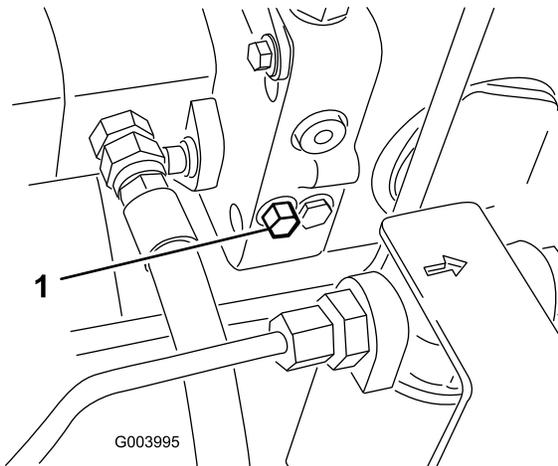

Figure 68
1. Rotate the bypass-valve bolt 1-1/2 turns to open and allow oil to bypass internally (Figure 68).